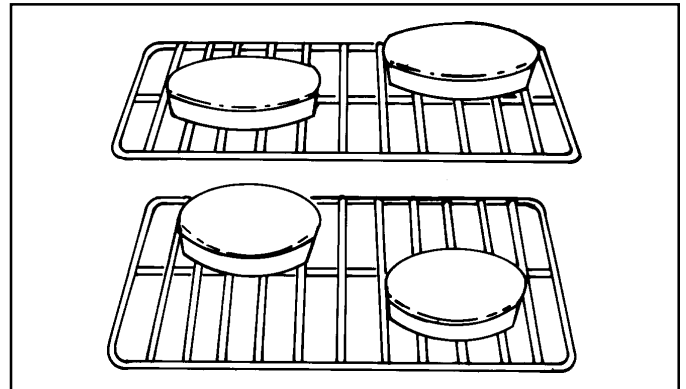

Figure 17
- Keep pans and baking sheets 2 inches from oven walls. (Figure 17)